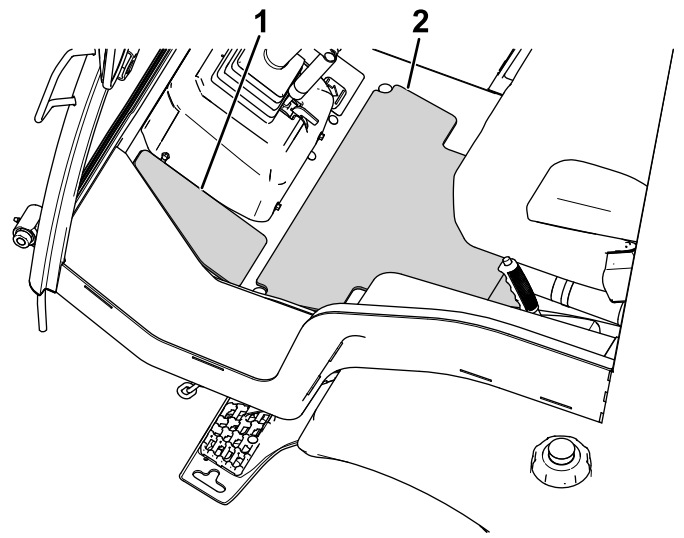

Figure 11
2. Remove the backing film, and install the center and corner floor pads to the platform floor (Figure 11).